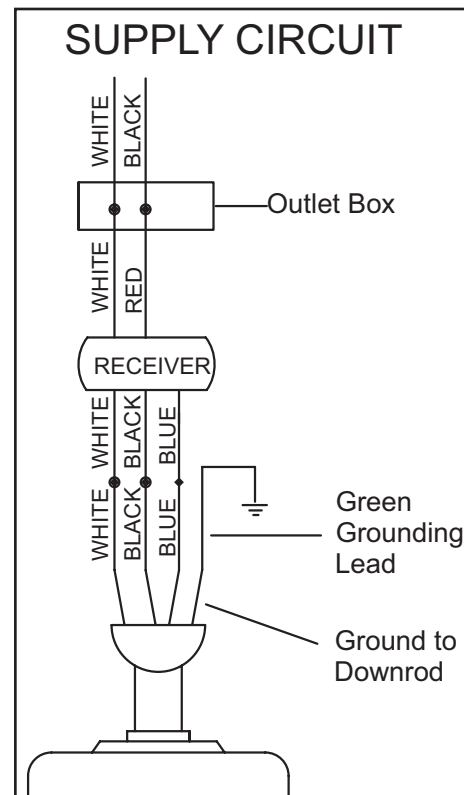

Figure 13
Follow the steps below to connect the fan to your household wiring. Use the wire connecting nuts supplied with remote control. Secure the connectors with electrical tape. Make sure there are no loose strands or connections (Figure 13).
1. Connect the ground conductor of the 120v supply (this may be a bare wire or a wire with green colored insulation) to the green ground lead(s) of the fan (Figure 13).
2. Connect the fan motor white wire to the receiver white wire using a wire nut (Figure 13).
3. Connect the fan motor black wire to the receiver black wire using a wire nut (Figure 13).
4. Connect the fan motor blue wire to the receiver blue wire using a wire nut (Figure 13).
5. Connect the receiver red wire to the supply black (hot) wire using a wire nut (Figure 13).
6. Connect the receiver white wire to the supply white wire (neutral) wire using a wire nut (Figure 13).